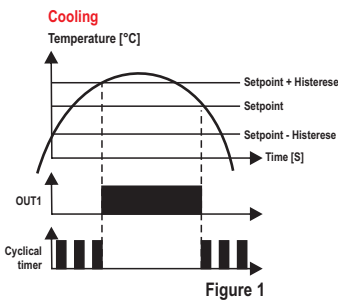

Figure 1
- **Timer triggered by SP1 (F22=1):** the timer is triggered whenever the temperature reaches the value configured for SP1. The timer switches off when the temperature reaches SP1 + F06 (if **stage 1** is configured as refrigeration) or SP1 - F06 (if **stage 1** is configured as heating), as shown in Figure 1.
- **Stage 1 linked to the cyclical timer (timer switches on upon power up) (F22=2):** in this configuration, the timer cycles according to the times configured in F20 ($[F0n]$) and F21 ($[F0FF]$). The **Stage 1** starts to cycle when the temperature reaches SP1 + F06 (if **stage 1** is configured as refrigeration) or SP1 - F06 (if **stage 1** is configured as heating), as shown in Figure 1.